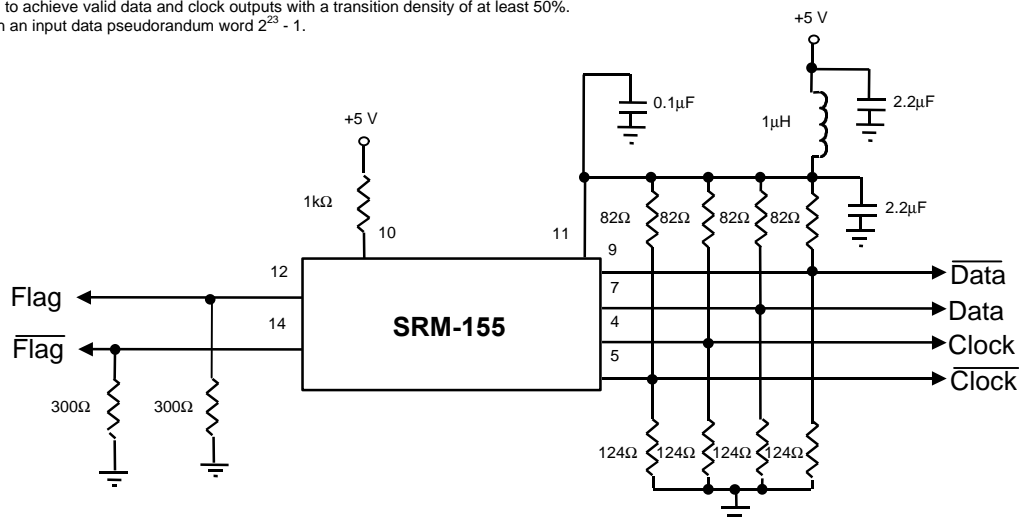

Figure 3. PECL Interface
2. Measured with a load of $R_L = 50\Omega$ to $V_{CC} - 2 V$. See figures 3 and 4. ECL levels are specified for dc measurement, an additional tolerance of 50 mV should be included for dynamic measurements.